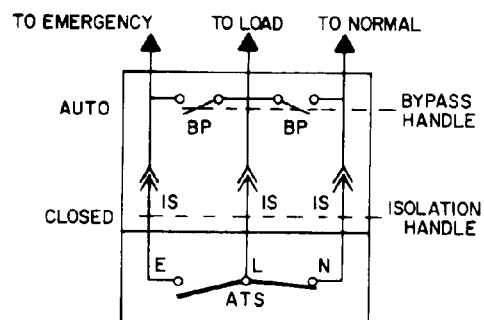

Figure 3-10. Auto position.
6. Turn **Bypass Handle** to *AUTO* position (Figure 3-10).